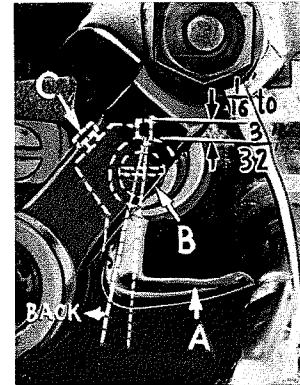
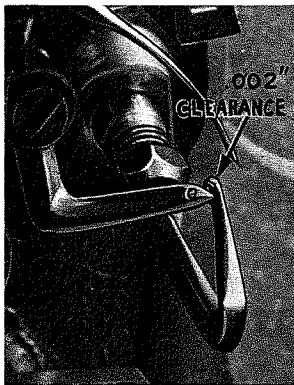
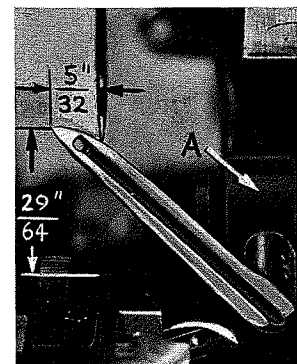

Fig. 7A
Fig. 8A
Fig. 9A
Insert the upper looper (A, Fig. 7A) in its holder. Screw (B) holds upper looper in its holder, and permits it to be pushed in or out or turned around its shank. Insert upper looper holder into upper looper shaft, if it is not already in place. Screw (C) on clamp holds the upper looper holder in the shaft. Locate the upper looper in its holder so that the shank extends  $1/16$  to  $3/32$  inch beyond holder (Fig. 7A).
When the upper looper is at the right end of its stroke, upper looper holder should be set to position upper looper shank back of vertical (Fig. 7A), but be sure there is a clearance between heel of looper and casting. Now, by adjusting looper holder in or out of upper looper shaft and by turning the looper around its shank, set upper looper point to cross lower looper to the left of the lower looper eye with .002 to .004 inch clearance (Fig. 8A).
Next, turn handwheel until upper looper is at left end of its travel. Check  $5/32$  inch dimension of upper looper point with respect to center line of needle and  $29/64$  inch dimension of upper looper point with respect to top of throat plate (Fig. 9A). The  $29/64$  inch dimension is increased by turning upper looper holder counterclockwise, looking from left end of machine. If the  $5/32$  inch dimension is too small, pull the upper looper holder out of the upper looper shaft to correct the condition. Turn upper looper holder forward (counterclockwise, looking from left end of machine) so that the upper looper point crosses the lower looper, without interference, as close as possible to the left of lower looper eye. It may be necessary to rotate the upper looper around its shank slightly to maintain conditions shown (Fig. 8A).
If the  $5/32$  inch dimension is too large, push upper looper holder into upper looper shaft to correct the condition. Turn upper looper holder backward, if necessary, so that the upper looper point crosses the lower looper, without interference, as close as possible to the left of the lower looper eye. It may be necessary to rotate the upper looper around its shank slightly to maintain conditions shown (Fig. 8A).
Check the setting to avoid interference between the upper looper and the needle on the needle downstroke. If the needle rubs the back of the upper looper, pull the looper out of its holder slightly to reduce the  $1/16$  to  $3/32$  inch dimension (Fig. 7A) and rotate the looper a short distance counterclockwise, looking from the left end of the machine. Reset to maintain the dimensions of Figures 8A and 9A.